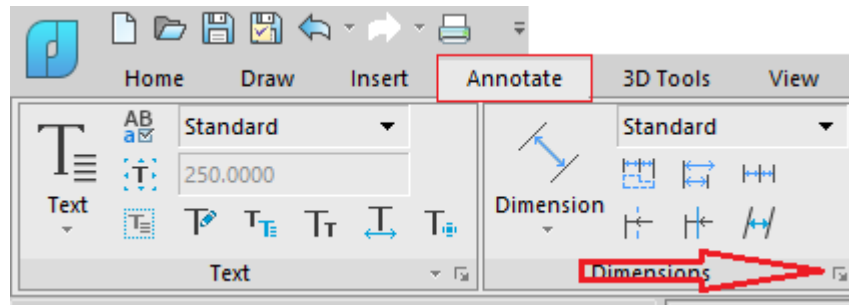

Fig. 33. Call the Dimension Style Manager
3. Set the dimension style. Open the Design ribbon tab and call the Dimension style dialog box (fig. 33):